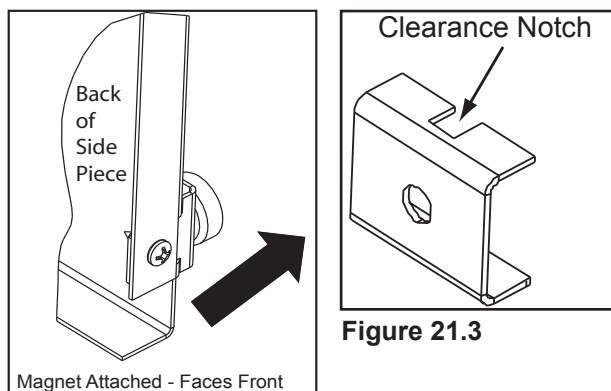

Figure 21.2
6. Secure the magnet to the bracket and attach the magnet and bracket to each metal side piece at the bottom. The magnet is facing the front. **Figure 21.2.**